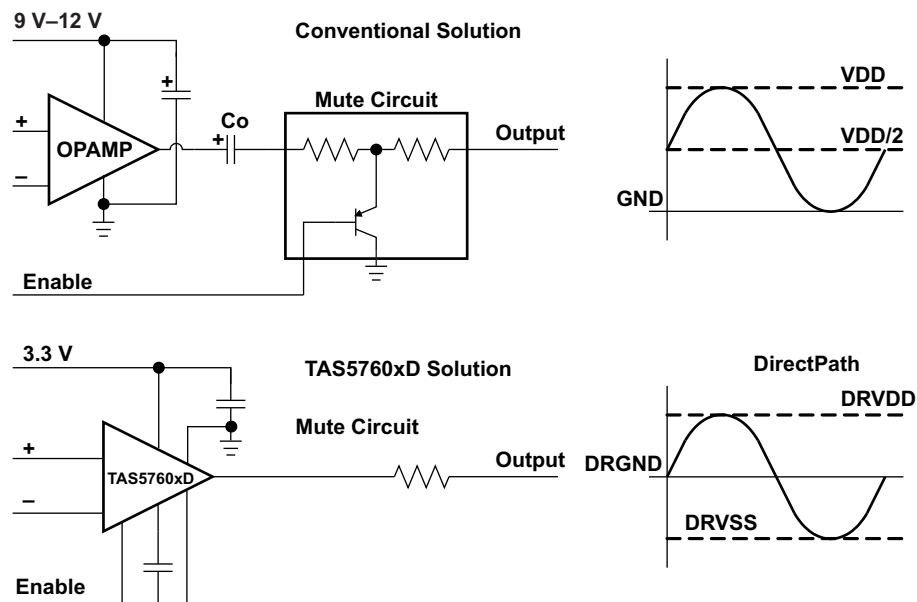

Figure 52. Conventional and DirectPath Line Drivers
Single-supply line-driver amplifiers typically require dc-blocking capacitors. The top drawing in Figure 52 illustrates the conventional line-driver amplifier connection to the load and output signal. DC blocking capacitors are often large in value. The line load (typical resistive values of 600 Ω to 10 k Ω) combines with the dc blocking capacitors to form a high-pass filter. Equation 3 shows the relationship between the load impedance (R_L), the capacitor (C_O), and the cutoff frequency (f_c).
The DirectPath amplifier architecture operates from a single supply but makes use of an internal charge pump to provide a negative voltage rail. Combining the user-provided positive rail and the negative rail generated by the IC, the device operates in what is effectively a split-supply mode. The output voltages are now centered at zero volts with the capability to swing to the positive rail or negative rail. Combining this with the built-in click and pop reduction circuit, the DirectPath amplifier requires no output dc blocking capacitors. The bottom block diagram and waveform of Figure 52 illustrate the ground-referenced line-driver architecture. This is the architecture of the headphone / line driver inside of the TAS5760MD.
- Changed Figure 52 device number reference From: TAS5760MD to TAS5760xD 54
- Changed paragraph text following Figure 52 From: This is the architecture of the TAS5760MD. To: This is the architecture of the headphone / line driver inside of the TAS5760MD. 54